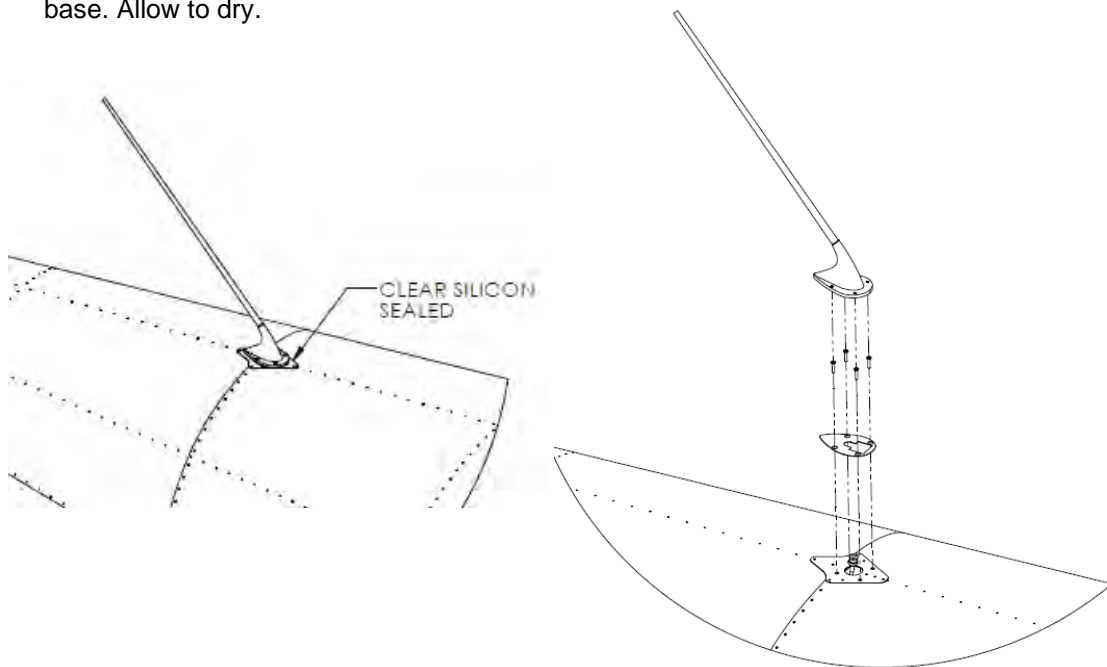

Figure 69: VHF antenna installation.
2. Apply clear silicone (refer to Figure 69) around the interface between the fuselage and antenna base. Allow to dry.